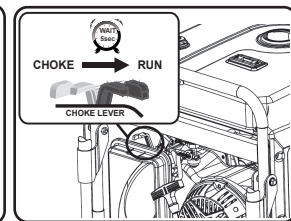

Fig 12
- Let engine run for several seconds and then gradually, as engine warms up, slide the choke lever towards the "RUN" position until the choke is fully at the "RUN" position. (See fig 12)